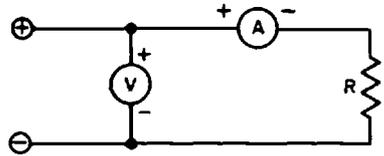

Fig. 31-32. Circuit for calculating the power (watts) consumed by the resistor.
**The Wattmeter.** There are several methods by which we may determine the electrical power (watts) consumed by an electrical circuit. Since we know that  $\text{watts} \times \text{volts} = \text{amperes}$ , we may connect a voltmeter in parallel with the circuit and an ammeter in series with it. Take the readings in volts and amperes. If we multiply the number of volts by the number of amperes, we get the number of watts (Fig. 31-32).